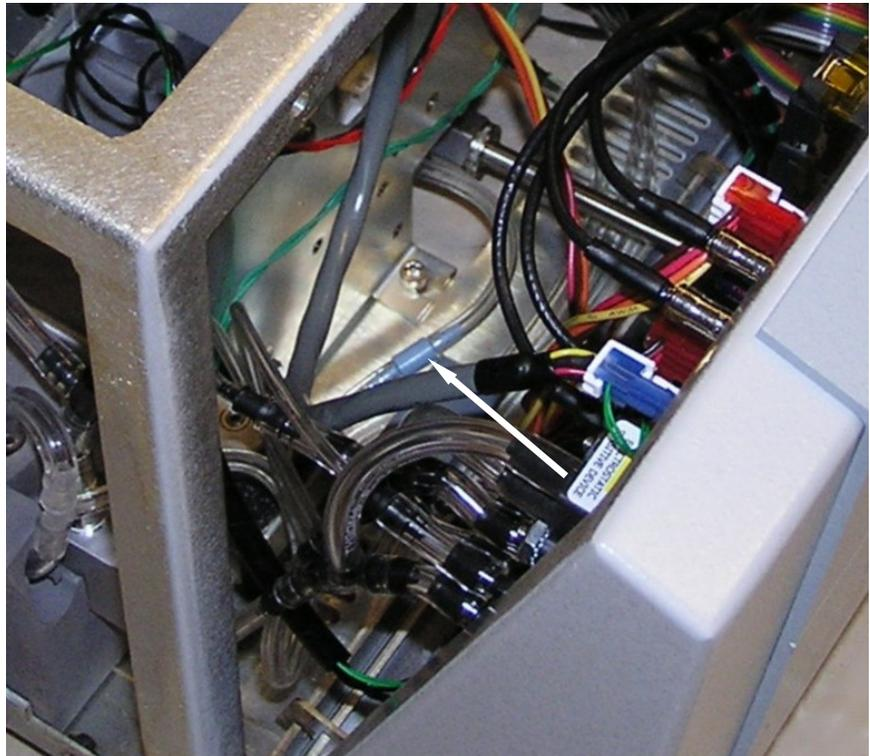

Figure 8-6
4. Find the filter shown in Figure 8-6.